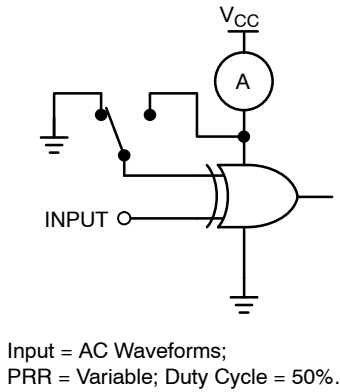

Figure 5. I_{CCD} Test Circuit
2. C_{PD} is defined as the value of the internal equivalent capacitance which is derived from dynamic operating current. Current consumption (I_{CCD}) at no output loading and operating at 50% duty cycle. (See Figure 5) C_{PD} is related to I_{CCD} dynamic operating current by the expression: I_{CCD} = (C_{PD}) (V_{CC}) (f_{IN}) + (I_{CCstatic}).